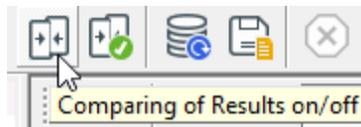
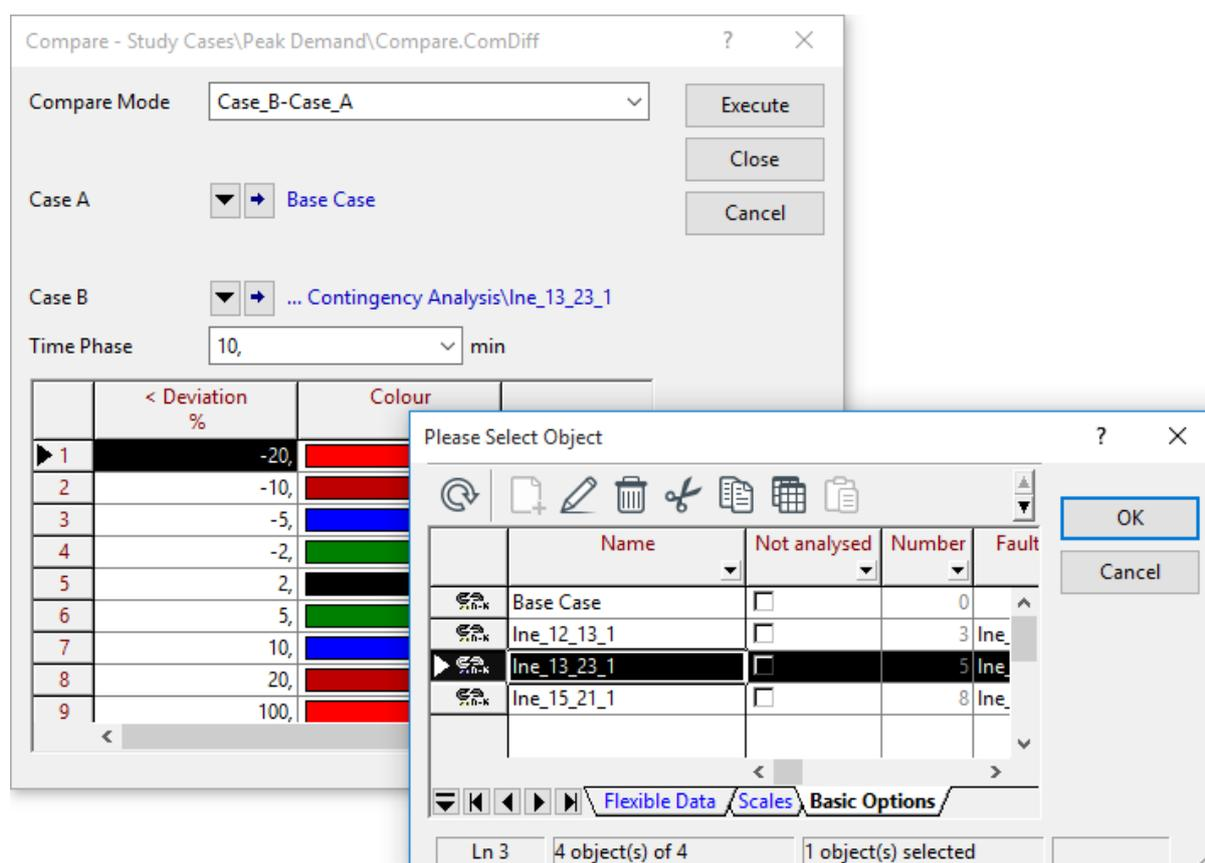

Figure 26.9.2: Comparing of Results Button
Figure 26.9.3: Selection of other Cases for Comparison
- By clicking on the **OK** button, the *Comparing of Results On/Off* button (Figure 26.9.2) is enabled and the selected contingency cases are automatically executed.
- To change the comparison mode and/or the cases to be compared, click on the *Edit Comparing of Results* button (Figure 26.9.2). The *Compare* dialog will pop up displaying the current settings. To change the cases to be compared, click on the black arrow pointing down (▼) and select a different case (Figure 26.9.3).